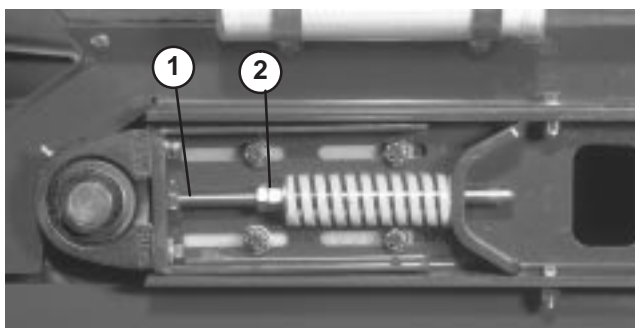

Figure 26
- 3. Loosen jam nuts and nuts on tension rod to release spring tension (Fig. 26).